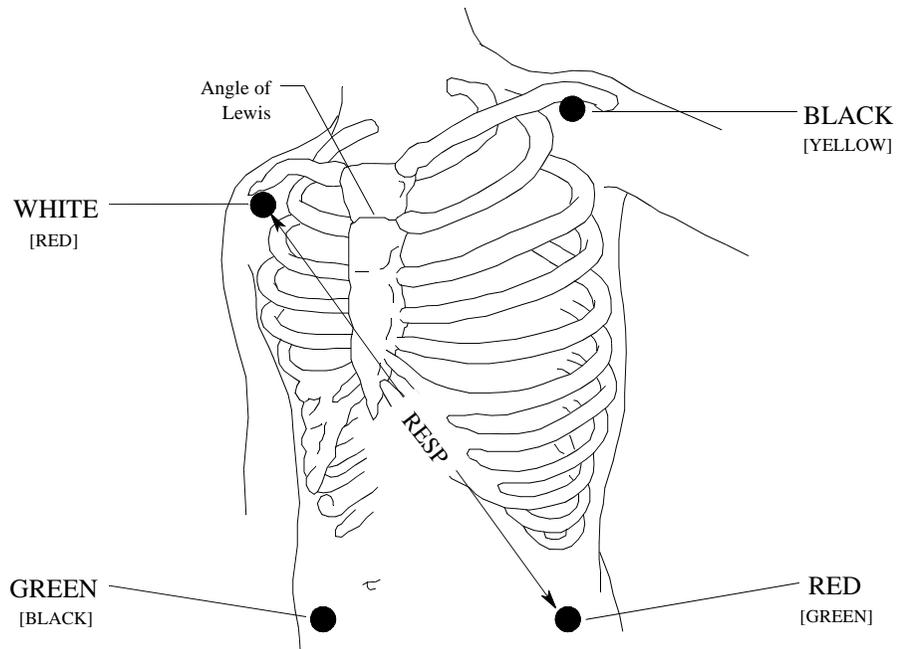

Figure 1-10 Electrode Placements for RESP
RESP is measured by placing two electrodes, right arm (RA) and left leg (LL), on the patient's skin as shown in Figure 1-10. For EASI 12-Lead ECG the positions are different (see Figure 1-5).